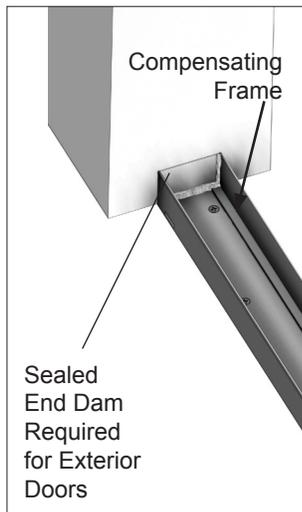

FIG. 1
Step 4a: If you are using the Raised Sill start with the Sub-Sill, measure for and cut it to length allowing for End Dams (FIG. 1). Securely attach the End Dams and Sub-Sill to the rough opening substrate using the appropriate fasteners and shims. The recommended spacing is 2" from each end and a maximum of 12" on center. Fasteners should be installed in a zigzag pattern toward the outer sides of the channel. Be sure to install with weep holes to the exterior. Seal as required. (FIG. 2)